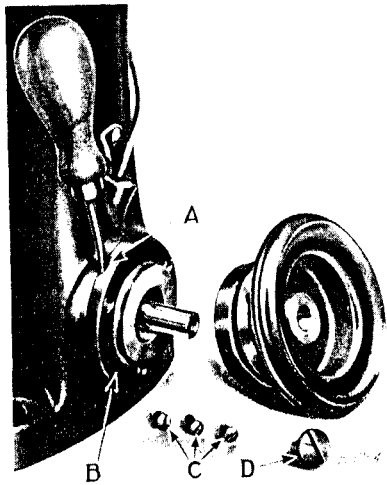

FIG. 13. REMOVING ARM ROTARY SHAFT
(SEE FIG. 13)
Remove the three screws (C) which fasten the bushing (B) in position. Then insert a screwdriver in the notch in the edge of the bushing, as shown at A in Fig. 13, and pry off the bushing.